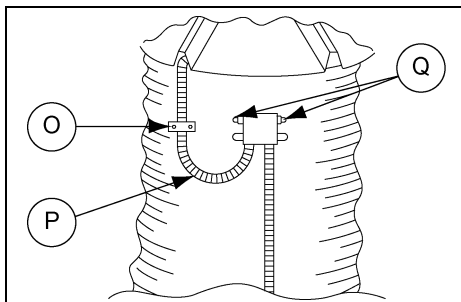

Figure 16H
10. Attach the 4 x 4 junction box on the bin sidewall as low as possible with the two (2) self-drilling screws so both liquid tite conduit lines can be attached on the bottom of the box. (See Figure 16H.) Be sure to leave a drip loop in the conduit. Attach the liquid tite conduit to the junction box with a connector. Secure the liquid tite conduit to the bin wall with the nylon clamps and #10 screws.